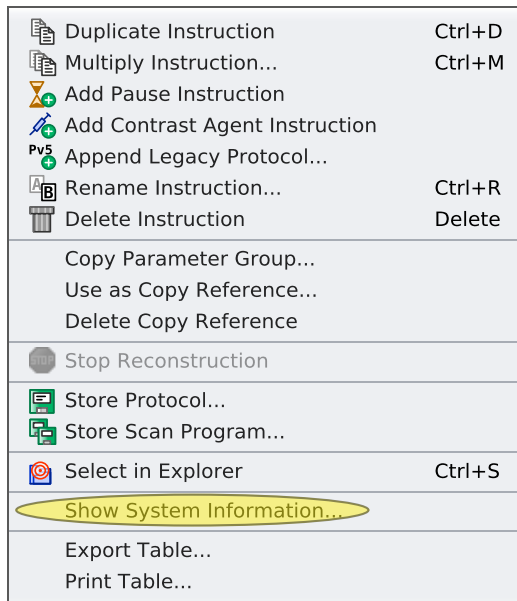

Figure 1.34: Context Menu Examination Card
2. Open the context menu (see [Figure 1.34 \[p 54\]](#)) and invoke **Show System Information...**